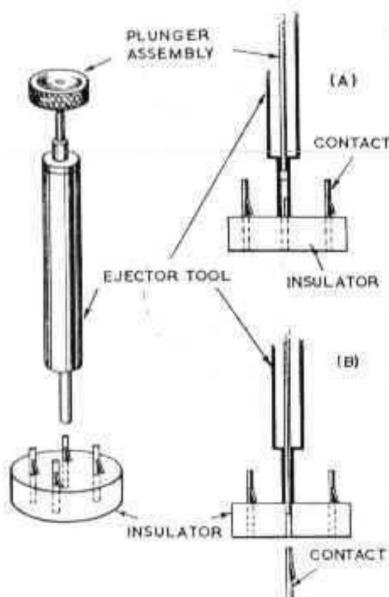

Fig. 19. Ejector tool
#### Ejector tool (fig. 19)
- (1) Place the tool end over the contacts so that it presses the contact flap back (fig. 19(A)).
- (2) Push the plunger down and eject the contact from the insulator (fig. 19(B)).